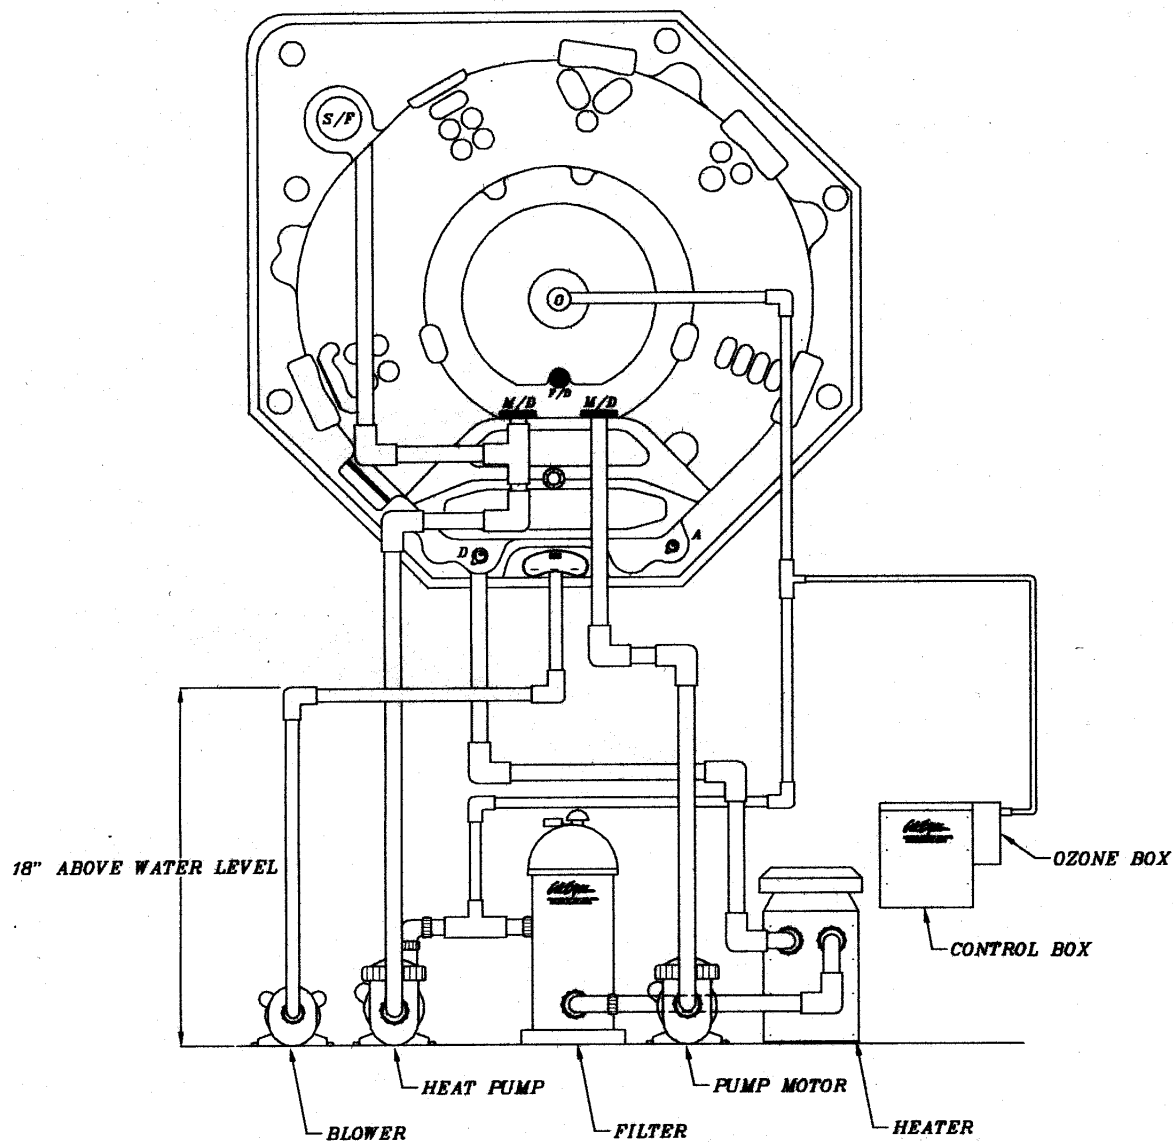

Figure 25. AUX freeze sensor locations
1. Using a large wire tie strap or zip tie, secure the sensing disk to the booster pump or heater manifold at the lowest metallic point possible. (See Figure 25 for part identification and installation location)